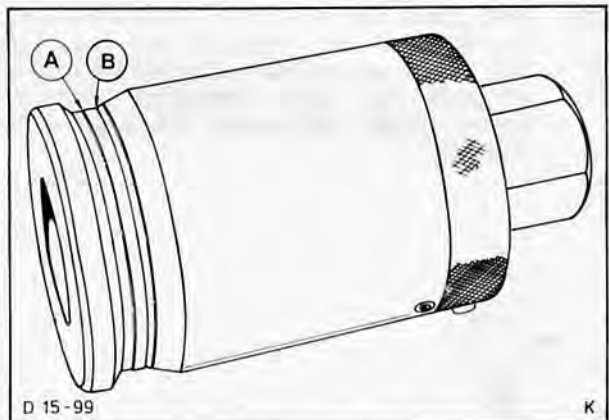

Fig. 32. Pre-load sleeve 15-023
15. Insert master pinion in axle casing, fit outer bearing and handle, screw on pre-load sleeve. Grasp handle of master pinion firmly and turn hexagonal end of pre-load sleeve clockwise, in the case of new bearings until the outer bell of the tool lines up on the A mark (use B mark for used bearings), Fig. 32.